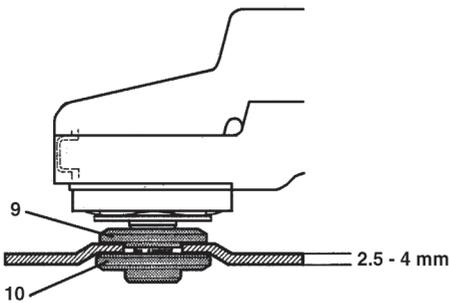

Fig. 4
Fig. 4 and 5 show how to mount the flange (10) when using thick (4-8 mm) and thin (2,5-4 mm) discs.